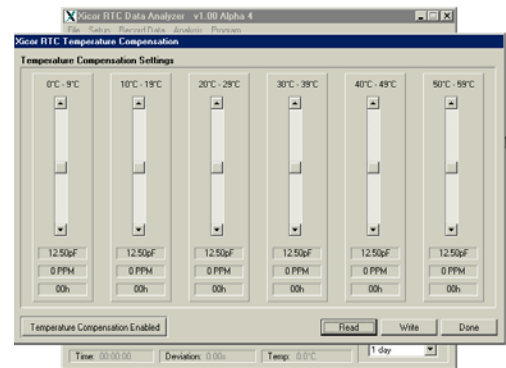

FIGURE 20. INTERSIL RTC TEMPERATURE COMPENSATION SCREEN
4.2. The temperature compensation window (see Figure 20) is opened from the RTC Data Analyzer screen by selecting the Program pull-down menu, and then selecting Temperature Compensation. In order for temperature compensation to be active, the "Temperature Compensation Enabled" button must be selected in the lower right corner of the window.